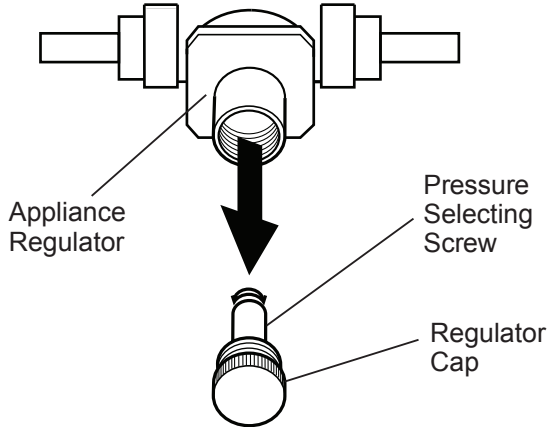

Figure 9 - Gas Selection Valve Knob and Regulator Cap
- Locate the regulator cap on the appliance regulator (see Figure 9 on Page 8) Unscrew by hand and remove the cap from the regulator. (The pressure selecting screw is attached to the regulator cap.) The pressure selecting screw is supplied in the Natural Gas position.
- Unscrew and remove the pressure selecting screw from the regulator cap (see Figure 9).